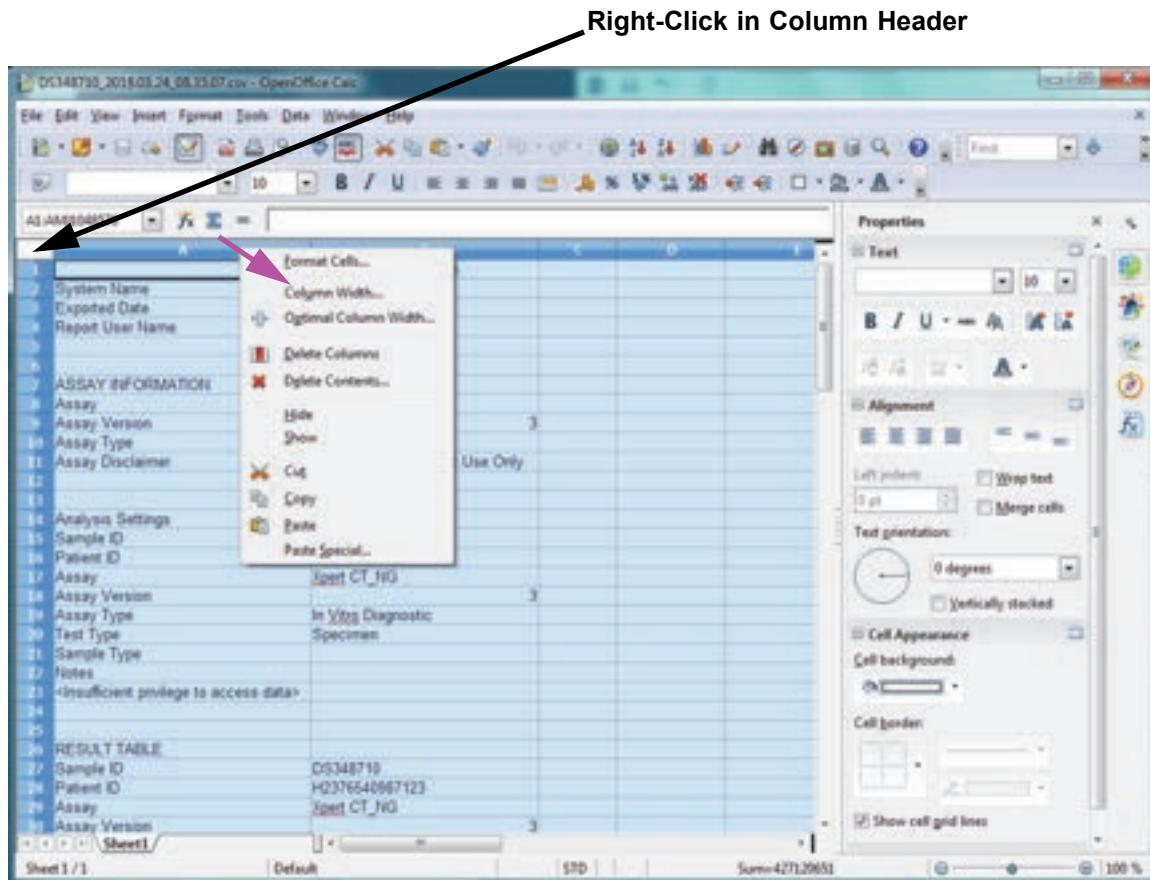

Figure 5-66. Drop-Down Menu to Select Column Width
5. Right click on the column header. A drop-down menu will appear at the right of the column (see Figure 5-66).